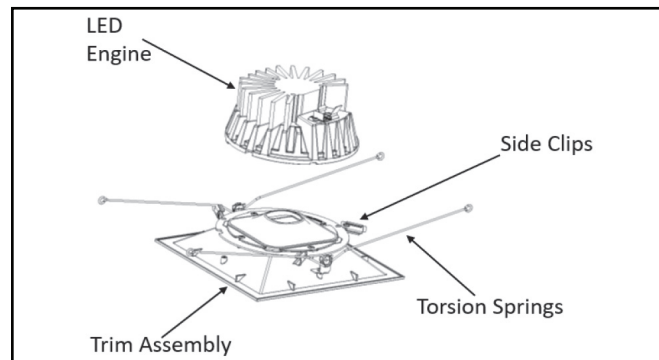

Figure 3
3. Remove trim assembly from protective packaging and rotate side clips (3) outwards. (Figure 3).